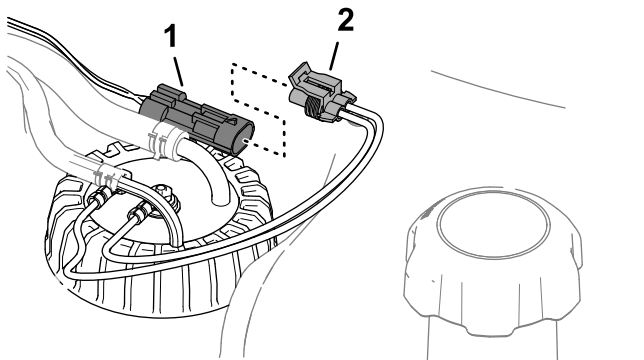

**Figure 88**
- 5. Assemble the hose onto the fittings of the fuel sender, and secure the hoses to the fittings with the clamps (Figure 88).